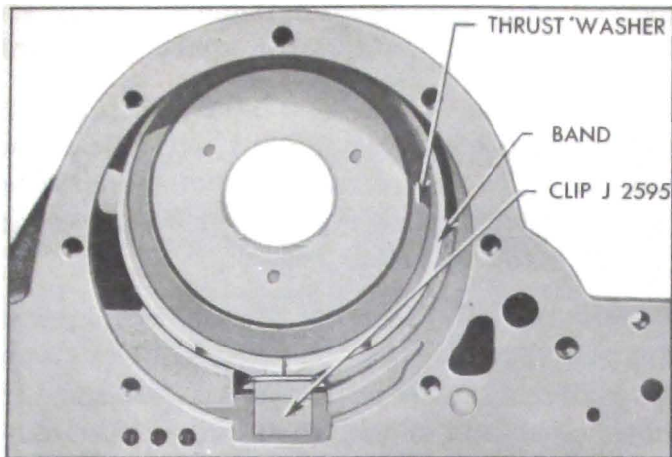

Figure 5-88—Ring Gear Thrust Washer and Reverse Band Installed
2. Compress ends of reverse band with Band Installing Clip J 2595 and install in case. See figure 5-88. Remove the clip. NOTE: Reverse